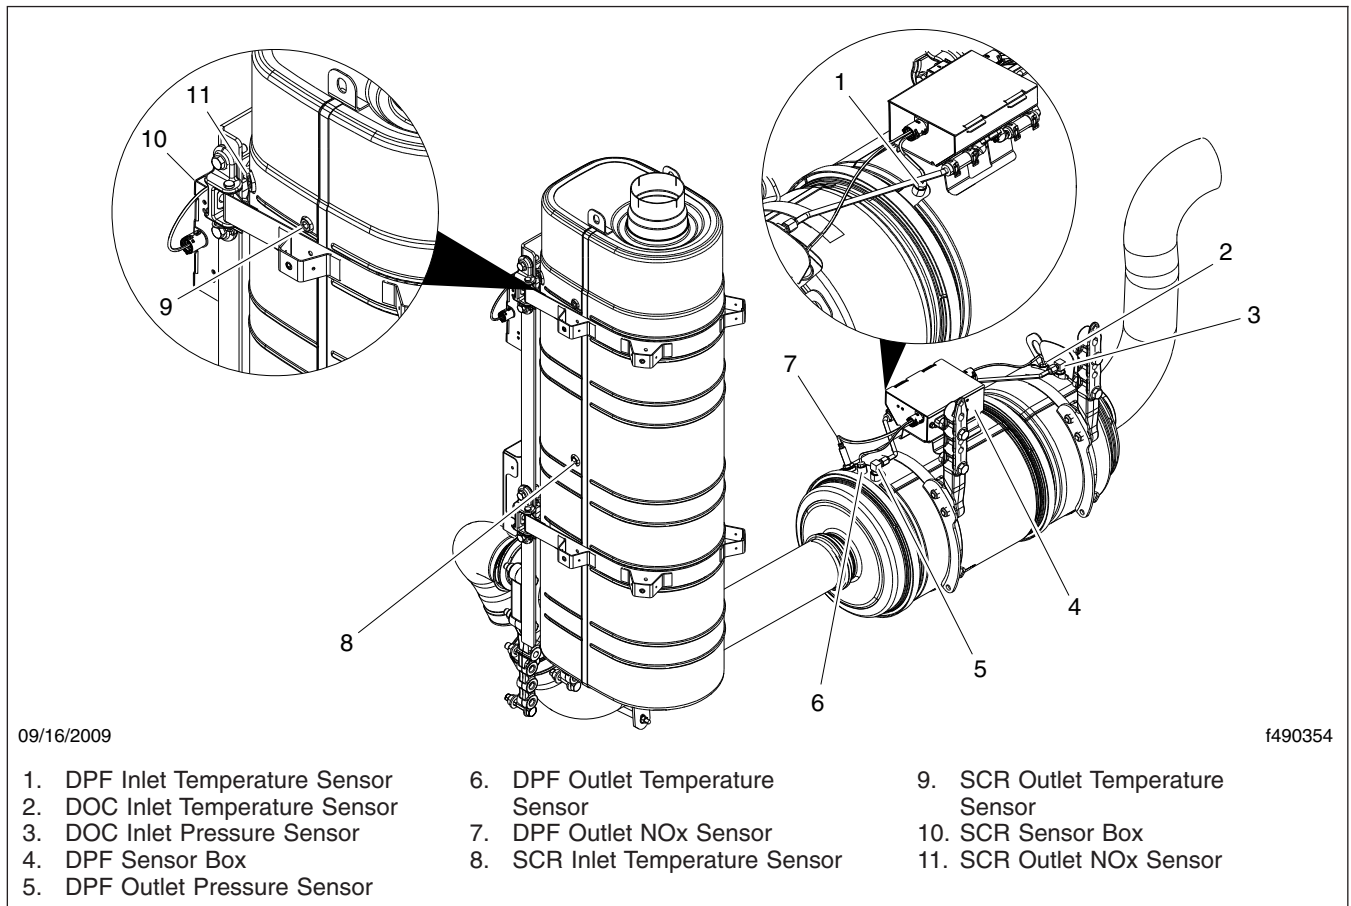

Fig. 3, 2HV Two-Box ATS Sensor Locations
6. Check all sensors attached to the ATS for leaks or damaged wires. No leaks are allowed. See Fig. 1, Fig. 2, or Fig. 3 for Detroit Diesel ATS sensor locations.